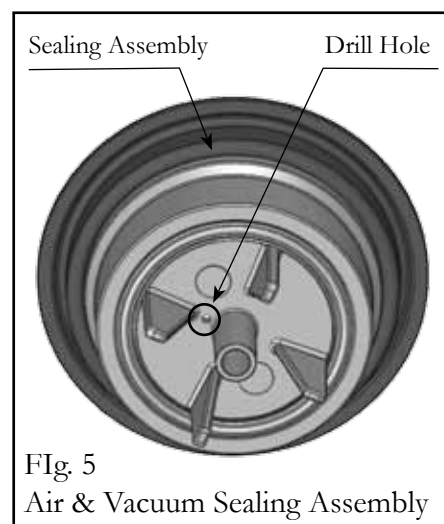

Fig. 5
12. Make sure that the drill hole is clean and the passage is open (Figure 5).